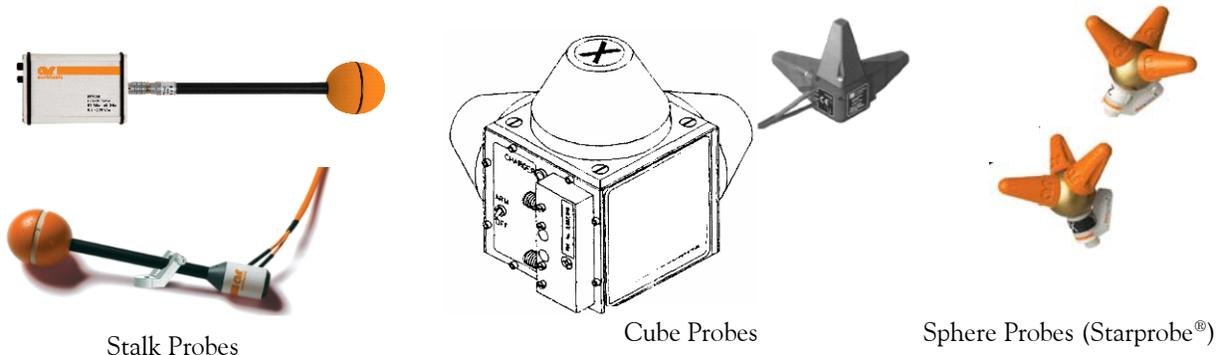

Figure 3: Different Probe Configurations
**Configuration/Dimensions/Weight** are very important considerations when matching a probe to a specific application. In general, there are three different probe configurations to choose from. In addition to the ubiquitous stalk and cube type probes, one can now choose one of the newer, recently introduced sphere probe configurations. (See figure 3). Some applications require a small probe to fit inside small areas like TEM Cells, striplines, tri-plates, GTEMs or small enclosures where larger probes simply can not be used. This is not the only aspect of size to consider since the RF probe itself does have an adverse effect on the RF field it is trying to measure, and in general, smaller probes will distort the RF field to a lesser extent.